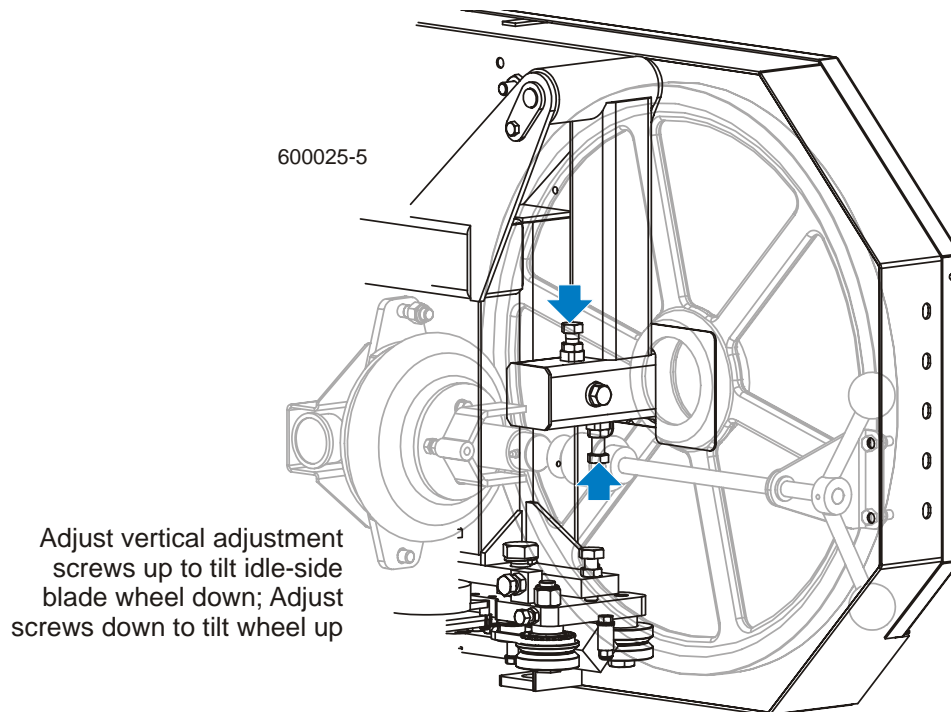

**FIG. 7-18**
**See Figure 7-18.** Use the vertical adjustment screws to adjust the drive-side blade wheel. To tilt the wheel down, loosen the top adjustment screw one quarter turn. Loosen the jam nut on the bottom adjustment screw and tighten the screw. Tighten the top and bottom jam nuts.